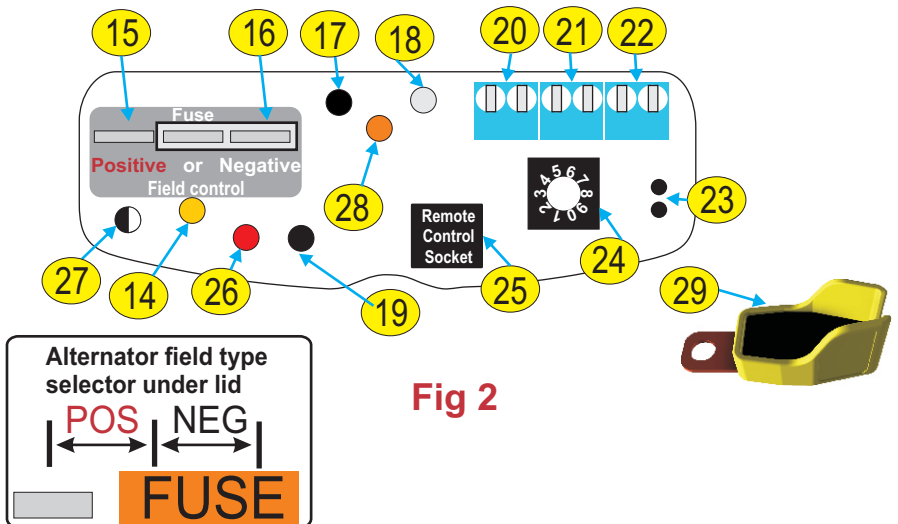

Fig 2
2) Remove the lower lid by removing the screw and lift the lid off. Inside you will see the configurations as in **fig 2** on the drawing. You will see a fuse which has 2 possible positions: See **fig 2**. Number **15 & 16** which is the fuse and number **24** which is the rotary battery type selector switch.
To set the alternator type, see **fig 2**. for negative, the fuse should be inboard of the edge of the case, if a positive unit then it should be the other way.
There is a standard automotive 15A fuse in the regulator, there are three legs which will hold that fuse. The fuse should come standard set to the negative position. In order to convert the Regulator to a positive remove the fuse and re-position it in the other slot. see **fig 2 15 for pos and 16 for negative field control.**
Battery chemistry setting selection rotate switch x 2 for 24V(24 on fig 2)